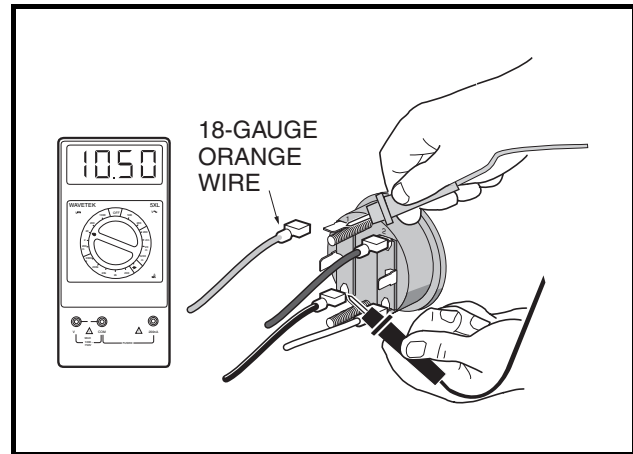

Figure 11-38 Test Fuel Gauge Voltage
9. The orange wire should remain disconnected for this step. With the black probe still on the (3) terminal of the fuel gauge/hour meter, place the red (+) probe of the multimeter on the (1) terminal of the fuel gauge/hour meter (**Figure 11-38, Page 11-35**). The voltage reading should be the same as the full battery voltage reading obtained in step 5. If the reading is incorrect, replace fuel gauge/hour meter.